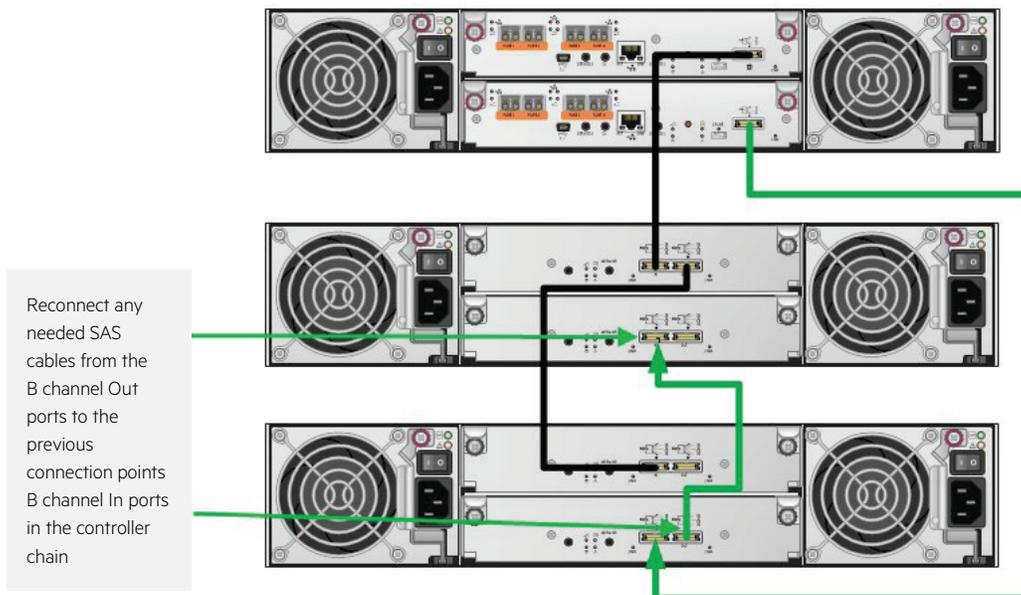

Figure 33. Completed B channel cabling configuration
7. Connect or reconnect an SAS interconnect cable from the last **Out** port B channel to the previous Disk Enclosure's B channel In port, as indicated in **Figure 33**.